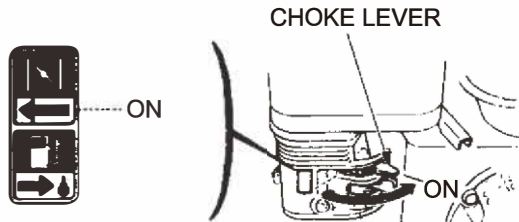

Fig.10
(6) After engine warm up, open the choke gradually. See figure 10.